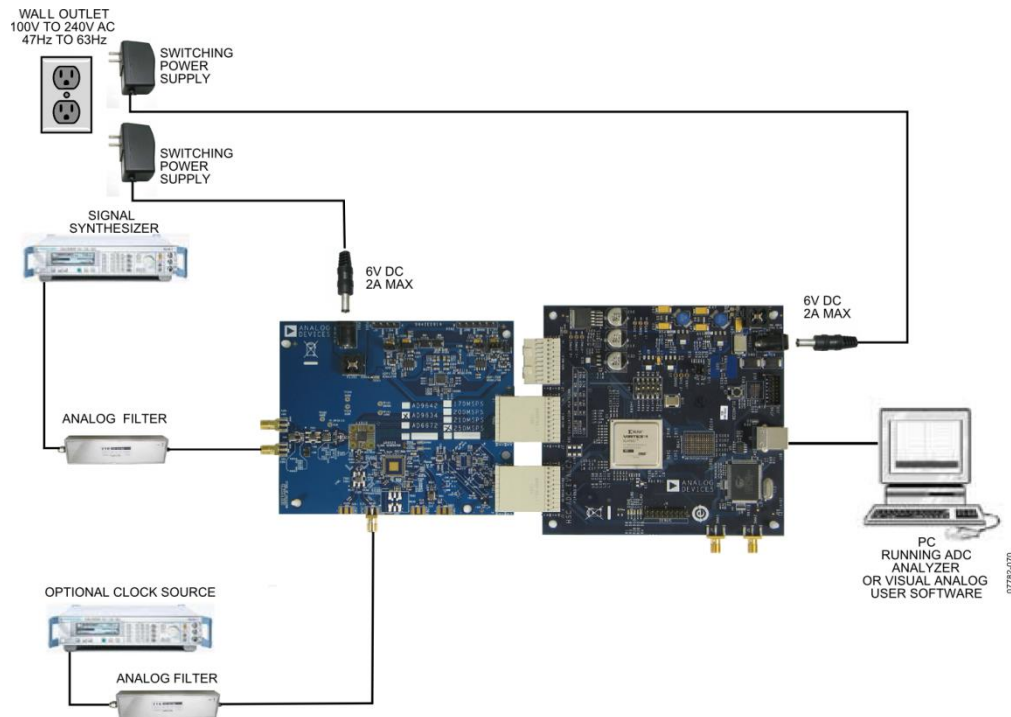

Figure 1: AD9642 Evaluation Board with HSC-ADC_EVALCZ Data Capture Board
1. Connect the AD9642 evaluation board and the HSC-ADC-EVALCZ board together as shown in Figure 1.
9. Next open the SPI Controller software. If prompted for a configuration file, select the configuration file titled AD9642_14Bit_250MSpiR03.cfg. If not, check the title bar of the window to see which configuration is loaded. If necessary, choose "Cfg Open" from the "File" menu and select one of the configuration files named above. Note that the CHIP ID(1) field may be filled whether the correct SPI Controller configuration file is loaded or not.